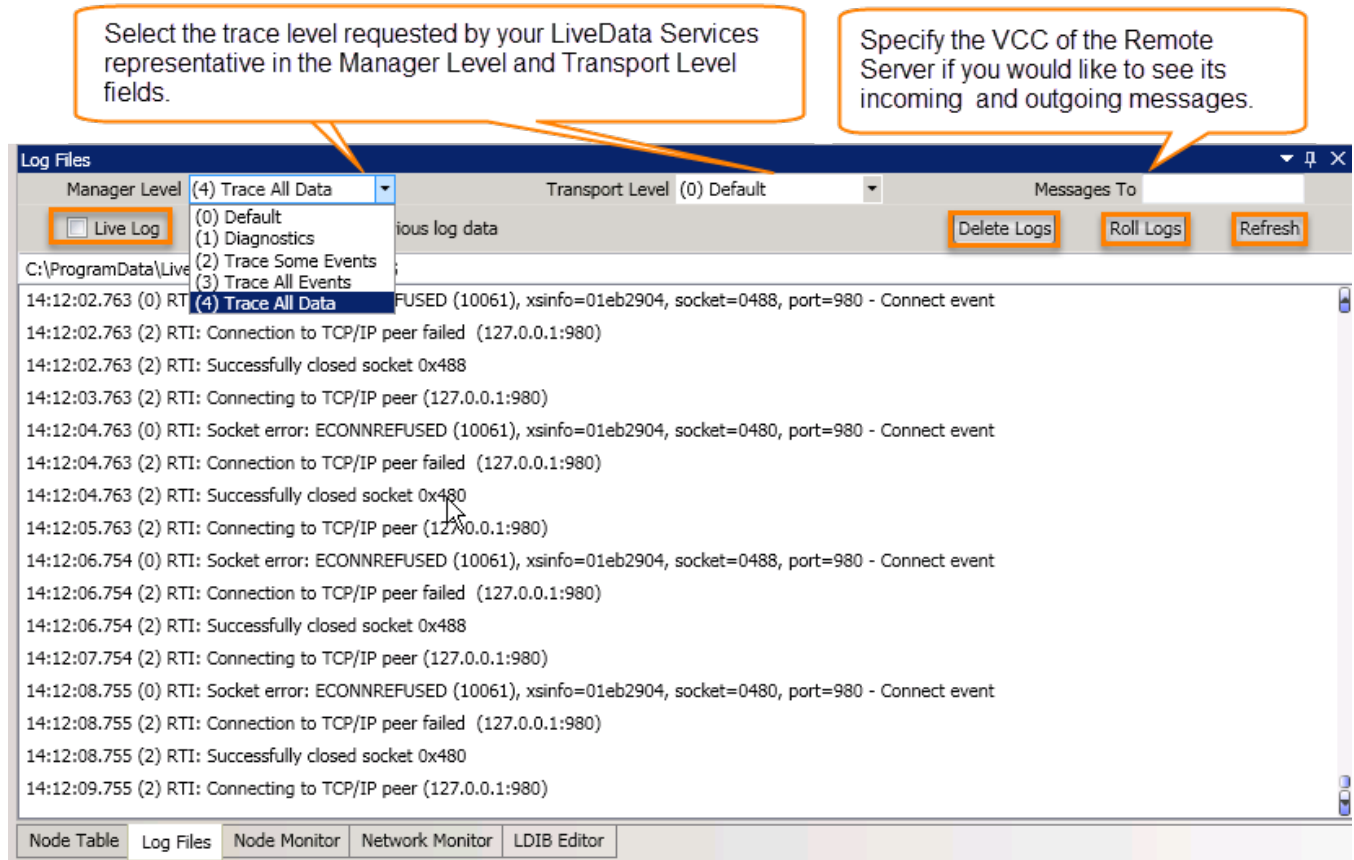

Figure 51: Log Files panel with Annotation
Figure 51 shows the Log Files panel and provides some description of the different fields, highlighting the Live Log checkbox and various buttons with an orange outline.
LiveData Utilities Professional Services will often ask you to adjust logging levels in order to debug a configuration or find a solution to a request you might have. Use the drop-down lists from the Manager Level and Transport Level fields to specify more or less information in the log as shown in Figure 51.
- » Switch on a real-time log by checking or unchecking (to turn it off) the Live Log checkbox outlined in orange in Figure 51.
- » Click on the Delete Logs button (outlined in orange in Figure 51) to delete all existing log files.
- » Click on the Roll Logs button (outlined in orange in Figure 51) to save the current log file and restart logging if you would like to perform a test during a specific period of time, and would like RTI Configuration Manager to turn off the current log and start fresh at the beginning of the test period.
- » Click the Refresh button (outlined in orange in Figure 51) to refresh the log if you have not checked the Live Log checkbox.